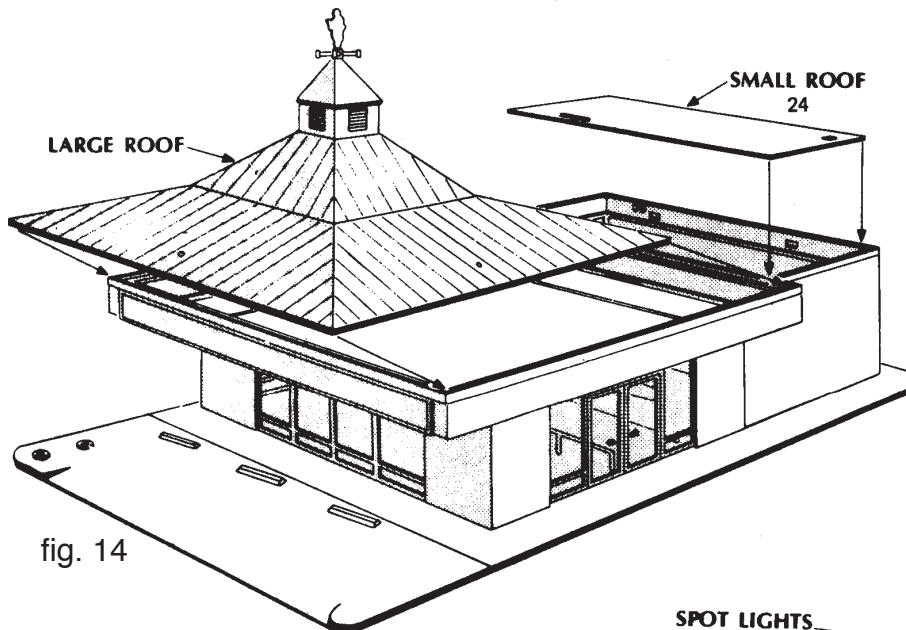

fig. 14
14. Cement the LARGE ROOF to the facade with the number "28" facing forward. Next, cement the SMALL ROOF (24) inside the walls with the number "24" facing backward. (Fig. 14)